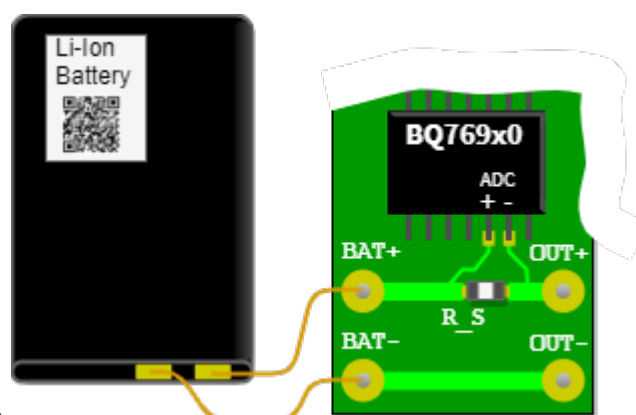

Fig. 32: Sketch of the setup
- The battery monitor BQ769x0 measures the charge and discharge currents of a lithium-ion battery by means of the voltage across a measuring resistor (shunt). In figure 32 the analog-to-digital converter (ADC) of this chip is connected to the shunt R_S via the circuit board. Through the shunt the discharge current flows from the battery